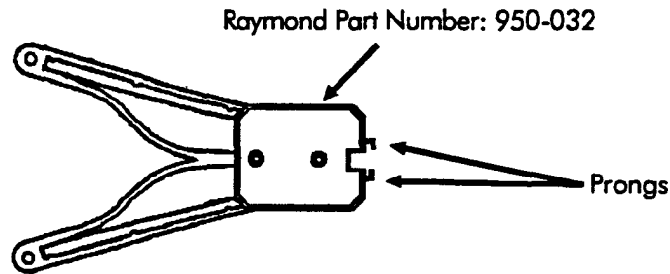

Figure 3 Integrated Circuit Tool
1. Use an IC removal tool as shown in Figure 3.